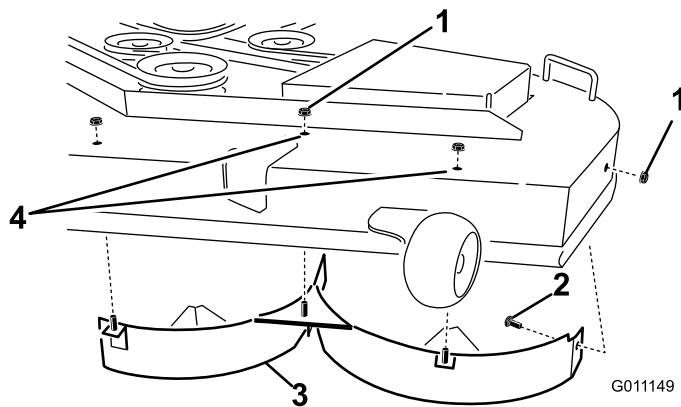

Figure 36
6. Remove the three locknuts (5/16 inch) secured to the welded posts of the left baffle on the top of the mower deck at the center, left of center and left positions (Figure 36). Remove the carriage bolt and
7. Remove the left baffle from the mower deck as shown in Figure 36.
8. Locate the two bolts in loose parts and use the existing locknuts. Install these fasteners into the holes shown in Figure 36 on the mower deck to prevent flying debris. Install the bolt up, through the underside of the deck and use an existing locknut to secure from the top side.